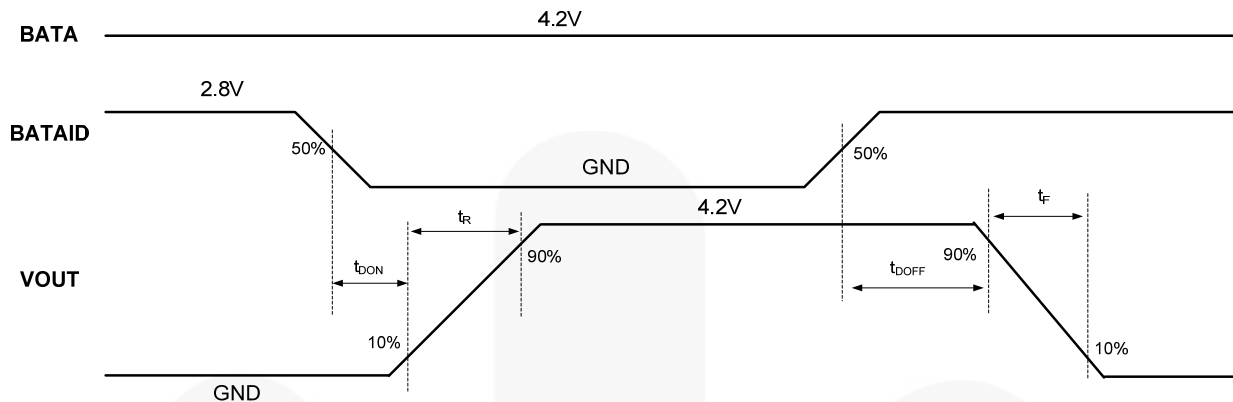

Figure 5. ON/OFF Behavior ($V_{BATA}=4.2V$)
- $t_{DON}/t_{DOFF}/t_R/t_F$ is defined in Figure 5.